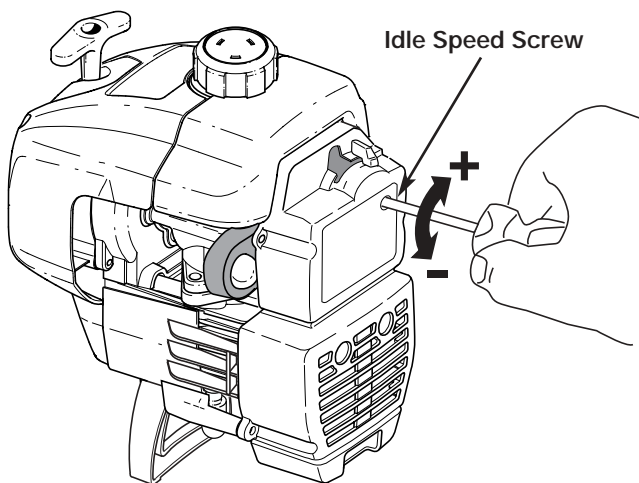

Fig. 26
The idle speed of the engine is adjustable through the air filter/muffler cover (Fig. 26).
2. Release the throttle trigger and let the engine idle. If the engine stops, insert a small phillips or flat blade screwdriver into the hole in the air filter/muffler cover (Fig. 26). Turn the idle speed screw in, **clockwise**, 1/8 of a turn at a time (as needed) until the engine idles smoothly.